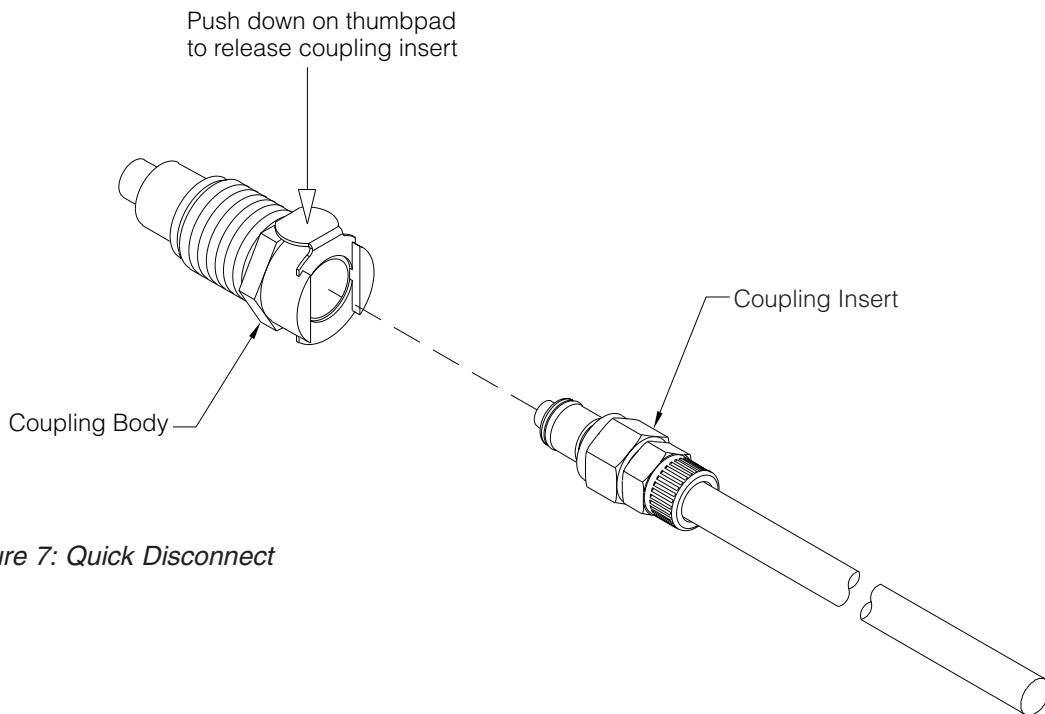

Figure 7: Quick Disconnect
These fittings are found in the tubing that connects the “TO UNIT” reservoir outlet to the “FROM TANK” system inlet. (See Fig. 7)
1. Disconnect the quick disconnect fitting in the "TO UNIT-FROM TANK" tube. See Figure 7.